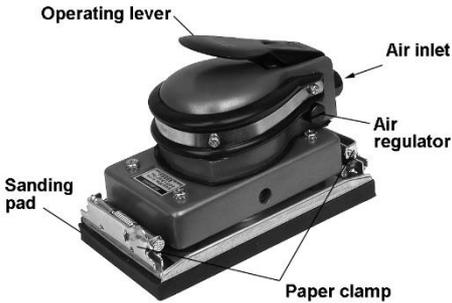

Figure 1
3. Remove protective cap from air inlet (Figure 1). If an in-line oiler is not being used, add 4 or 5 drops of air tool oil (not included) into the air inlet.